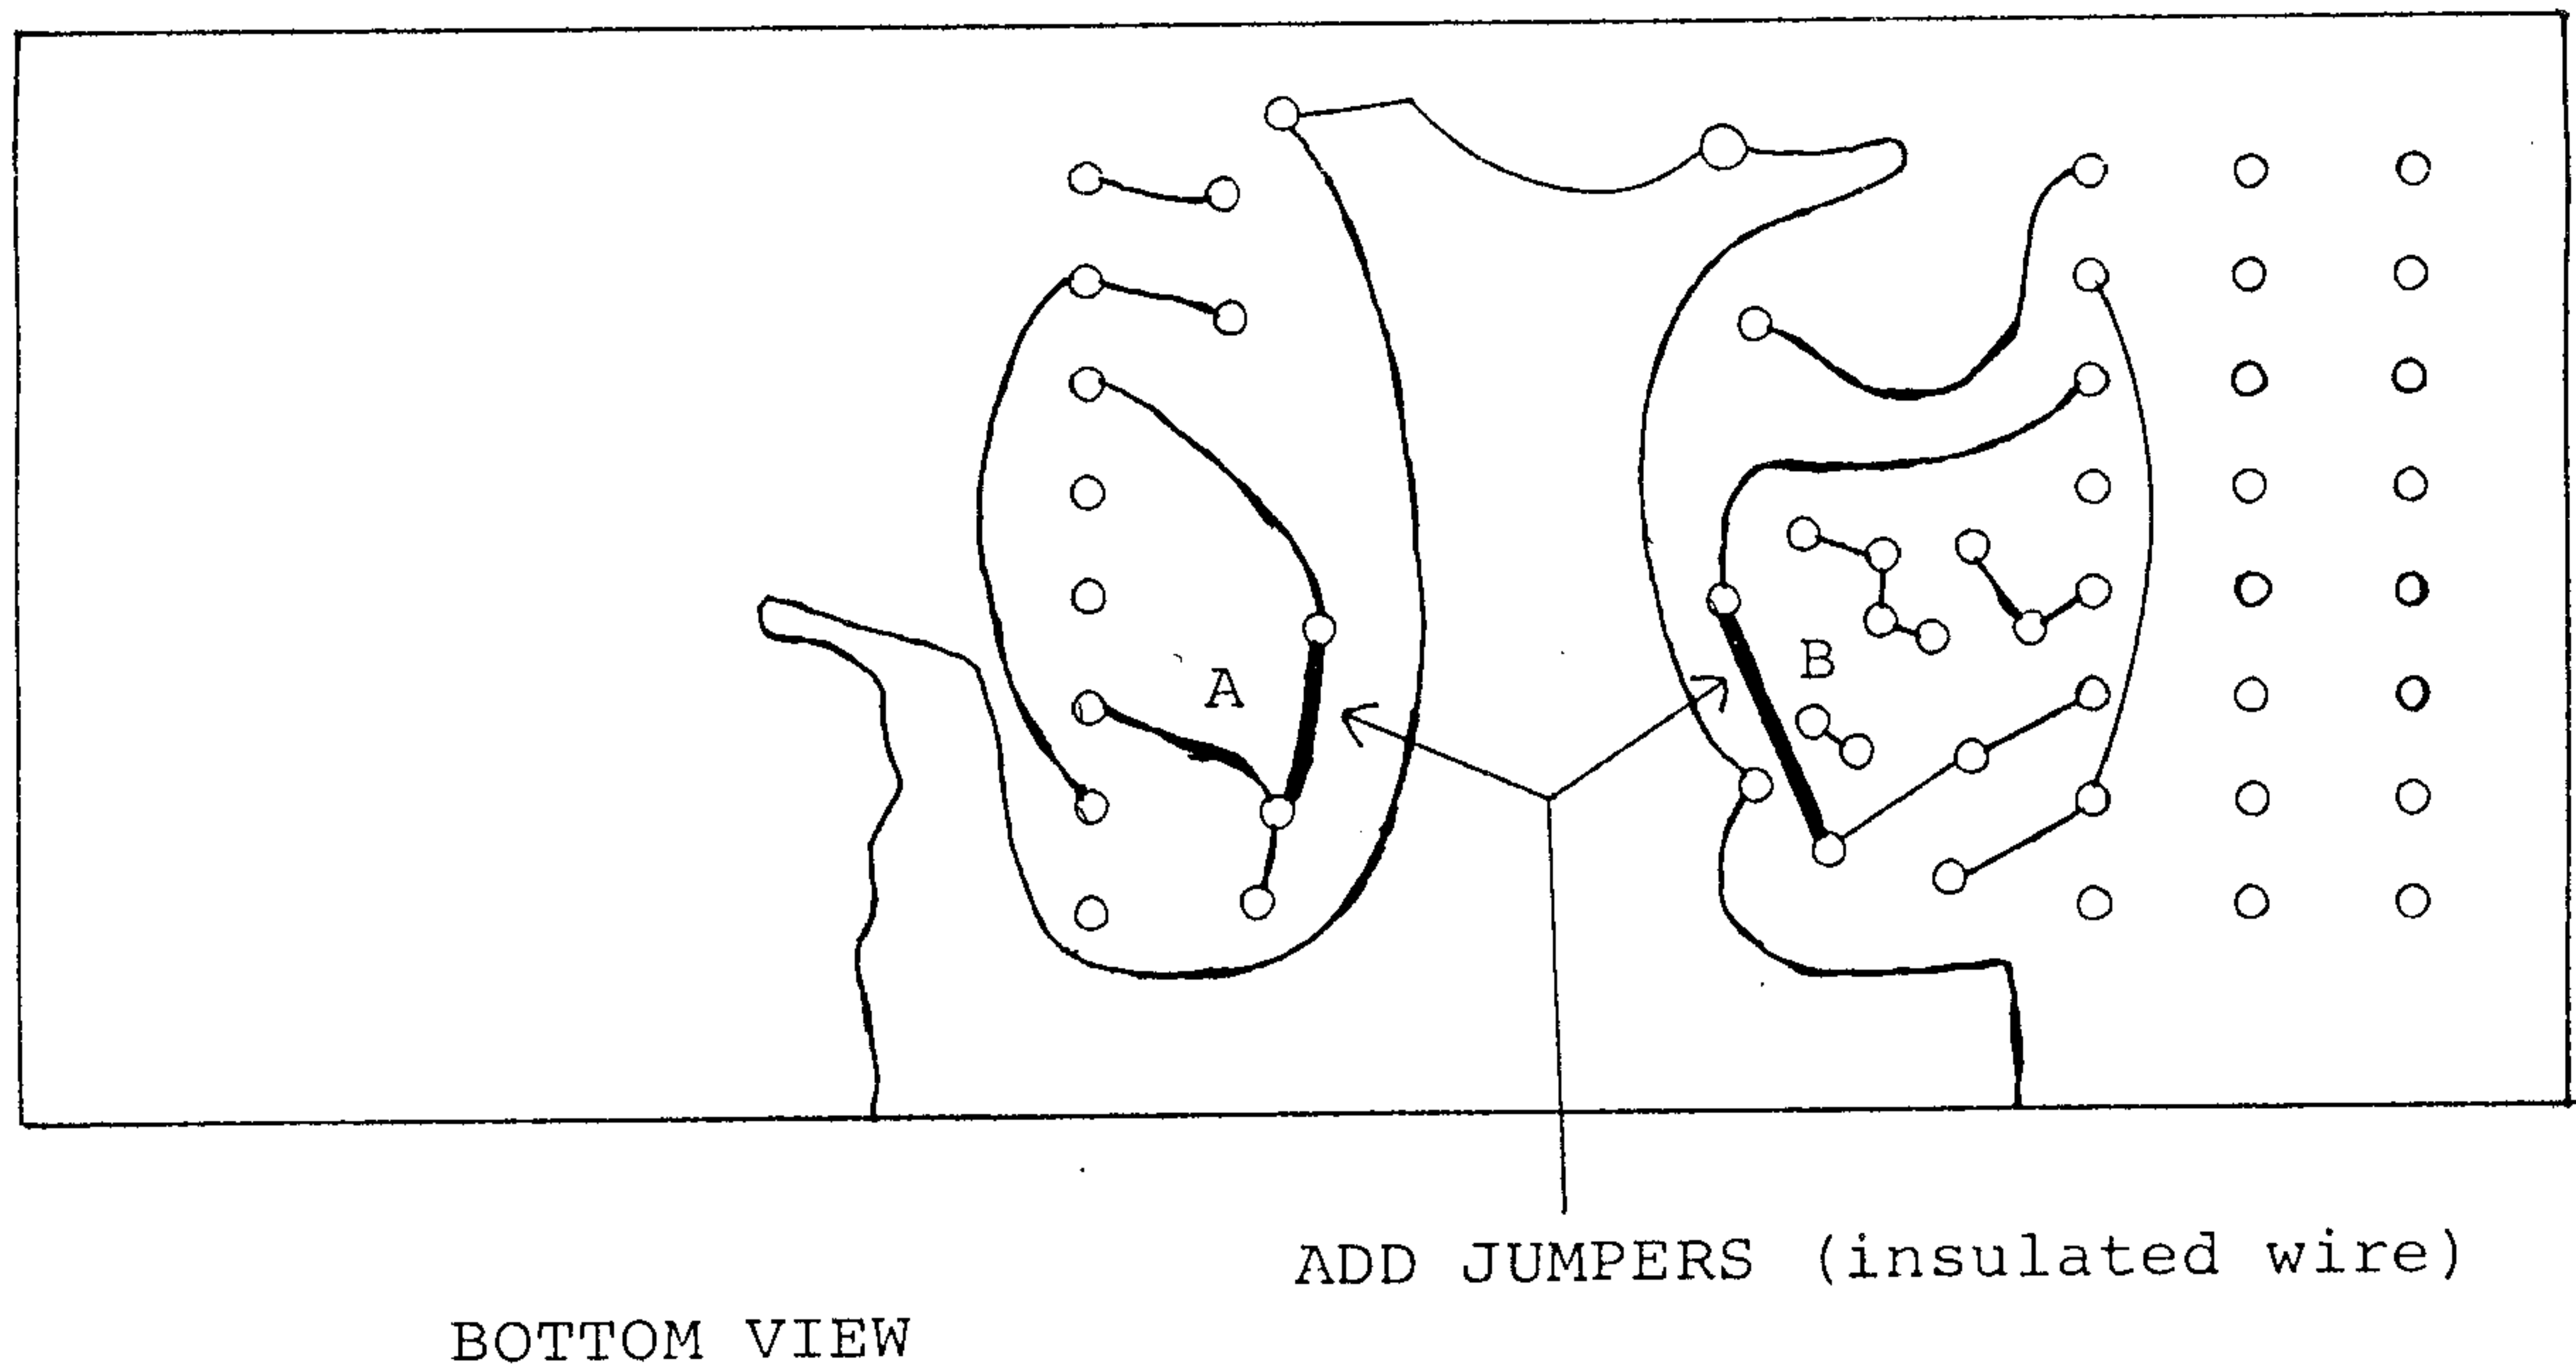

FIGURE 1A
10. The 24.5 MHz bandpass filter can is the right rear. See Figure 1A and page 3-44 of the manual.